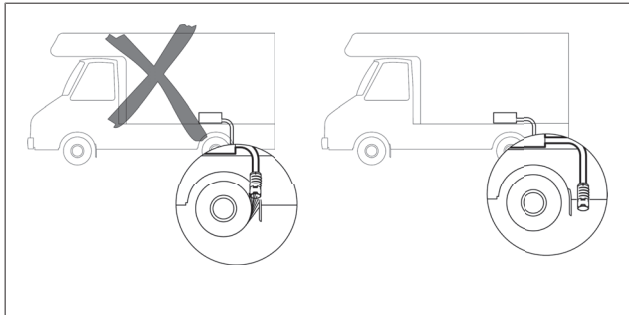

Fig. 36 Avoid the intake pipe becoming clogged
- The intake opening for combustion air must be located so that it cannot become clogged with dirt or snow. See Fig. 36.
- ▶ The pipe must be located so that it cannot become clogged with dirt or snow. See Fig. 36.